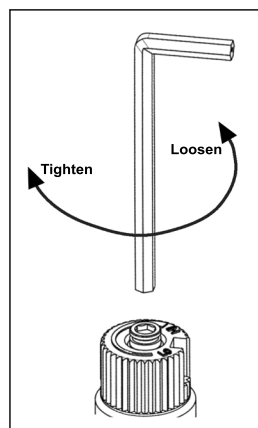

Figure 13: Removing valve screw.
- Insert a 5/32" or 4 mm Allen wrench into the hexagonal key-way of the screw (Figure 13), rotate it counter-clockwise until it is free and extract it.
- Using the Allen wrench (Figure 13), rotate the screw clockwise.